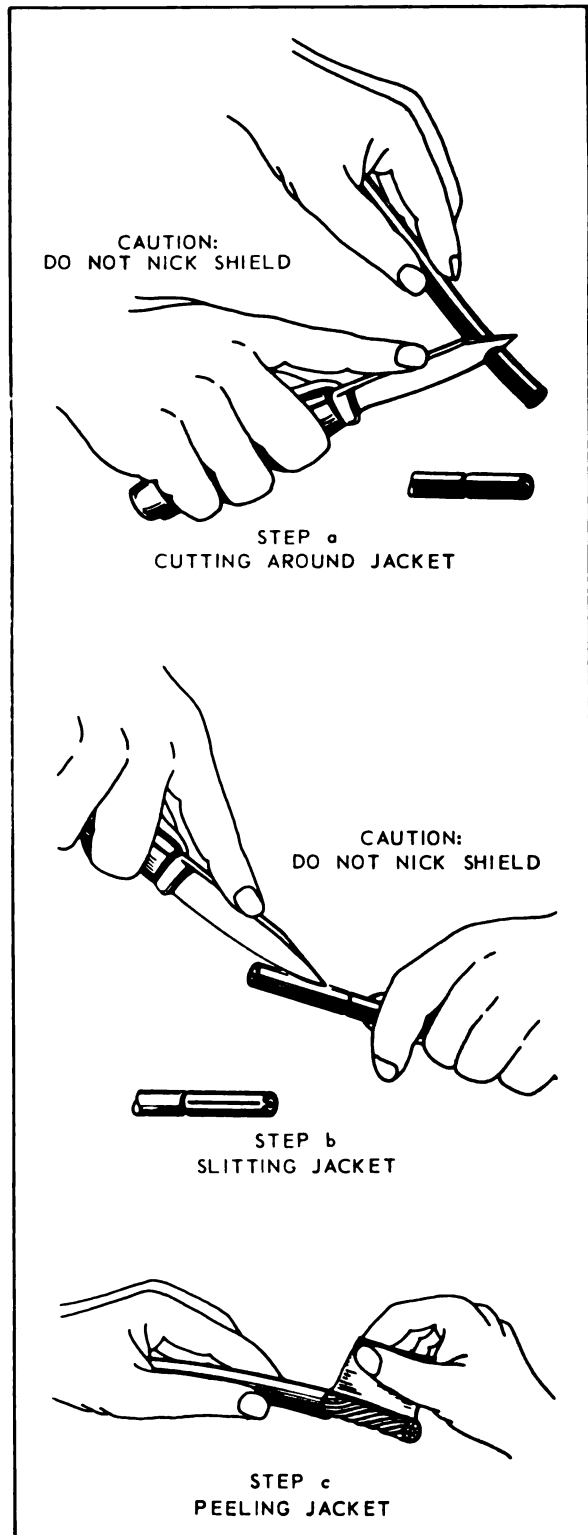

Figure 4-8. Stripping Outer Jacket from Coaxial Cable
4-19 Strip outer jacket from cable by first making a cut carefully around circumference with a sharp knife. See figure 4-8, step a. Then make a lengthwise slit, step b, and peel off jacket, step c. Take care not to nick, cut or damage shield.
a. Remove 5/16 inch of outer jacket, exposing shield. See figure 4-8.
a. Remove 3/8 inch of outer jacket exposing shield, for all except plugs 31-301 and 31-304; strip jacket for these plugs 27/64 inch. See figure 4-8.
c. Strip outer jacket to "A" dimension given in table 4-3, exposing shield. See figure 4-8.